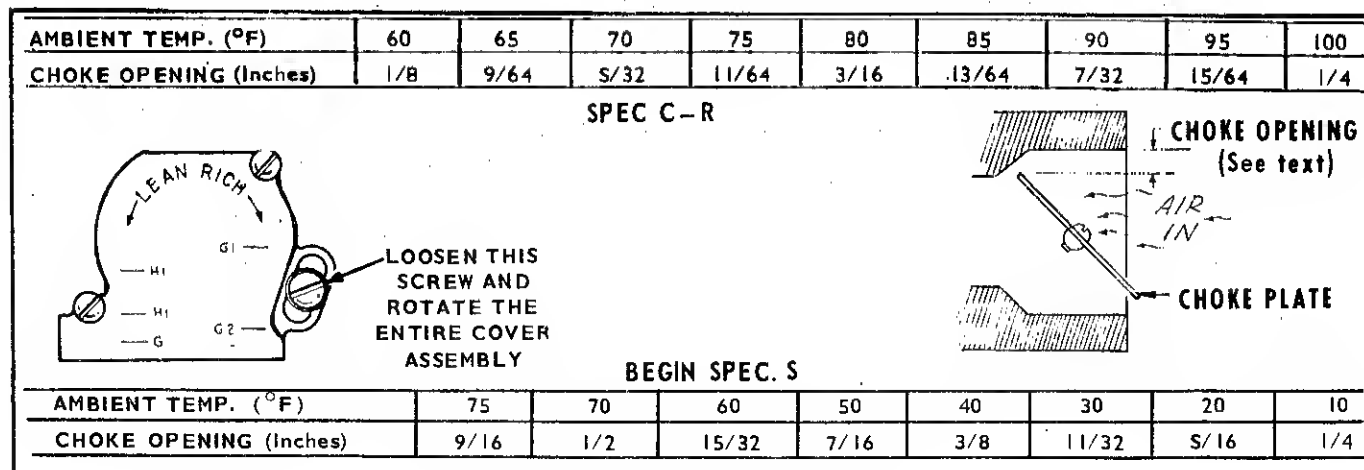

FIGURE 10. CHOKE ADJUSTMENTS
**Adjustment, Electric Choke:** Under normal operation, adjust the choke so the distance measured between the choke plate and carburetor throat (Fig. 10) is as shown in the table with the engine cold. Use the straight shank end of a drill bit to measure the gap. The upturned air cleaner must be removed for choke adjustment. To adjust the choke, loosen the two screws on the endplate and rotate the cover assembly.
Adjustment must be made with the bimetal at ambient temperature. Do not attempt adjustments until the engine has been shut down for at least one hour. Remove the air cleaner to expose the carburetor throat. Loosen the screw which secures the choke body assembly. Refer to Fig. 10 for correct choke setting according to temperature. Use a drill bit to measure the choke opening. Rotating the choke body clockwise richens and counterclockwise leans the choking effect. Tighten screw that secures choke body.